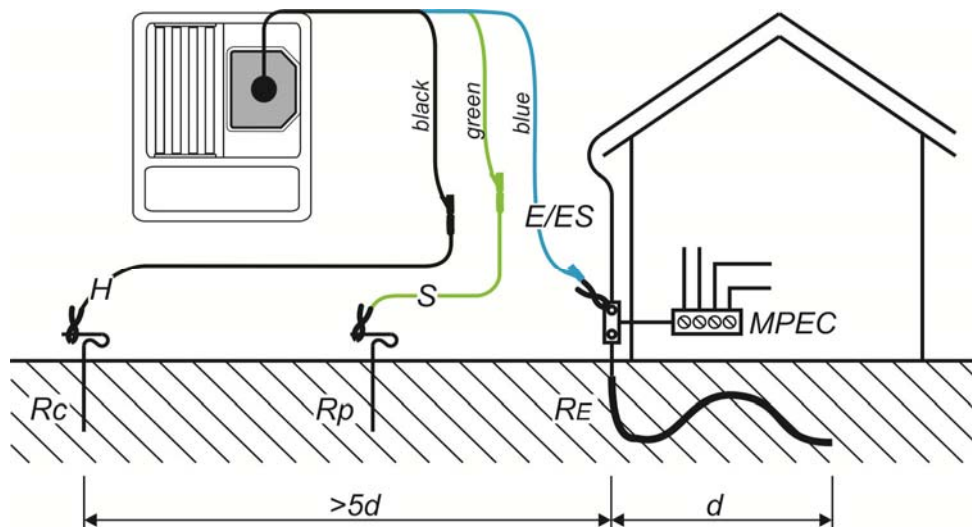

Figure 5.42: Resistance to earth, measurement of main installation earthing
- ❑ **Connect** the item to be tested (see *Figure 5.42* and *Figure 5.43*).